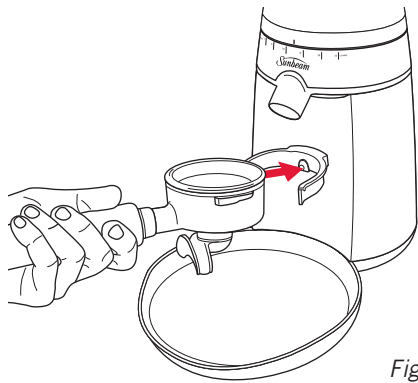

Figure 6
10. To grind coffee, press the group handle against the button located in the centre of the group handle locator, see figure 6.